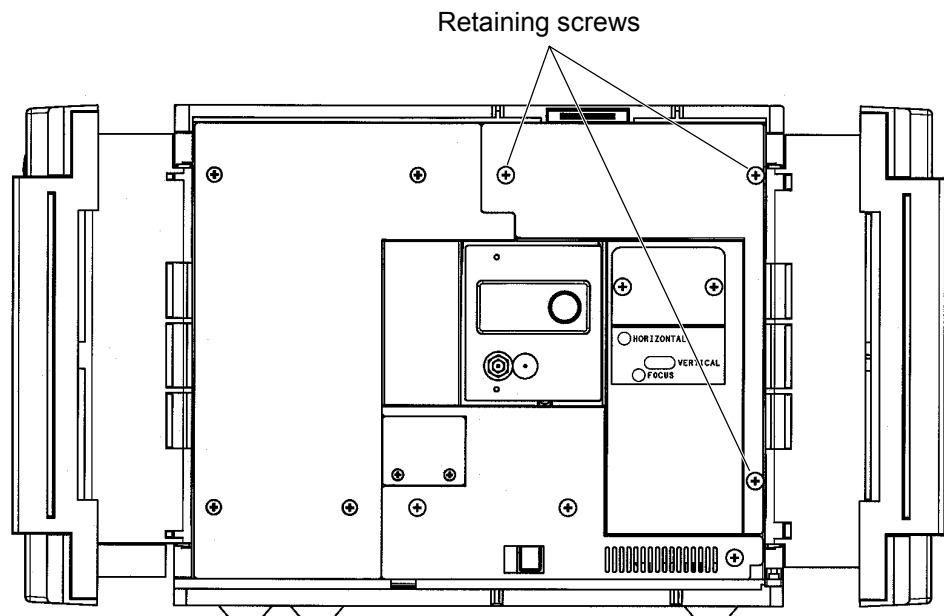

Fig. 5-1 Removal of Light Source Cover
- (b) Loosen six retaining screws of the light source cover, and detach the cover (see Fig. 5-1).